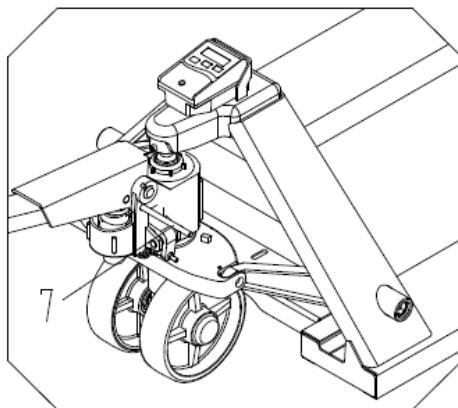

Fig3
3.7 See fig 3, turn the hand grip to the level position, pull out pin 7 and save pin 7 with care for next use